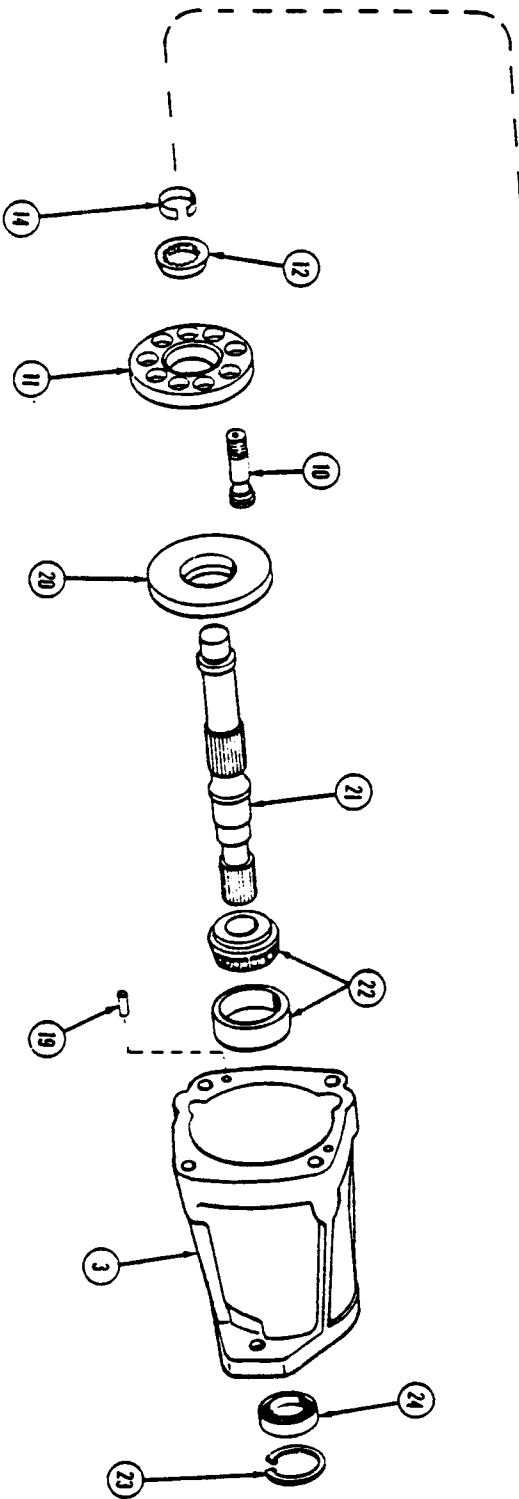
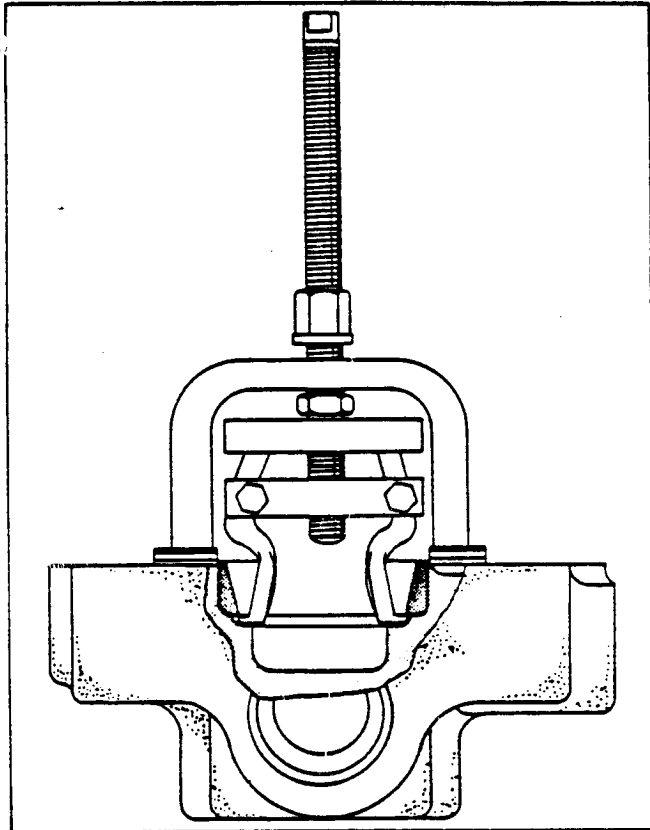

Figure 10. Exploded View of Piston Motor
Figure 12. Removal of race from blind hole of valve block
Periodic maintenance of the motor will generally not require disassembly to the extent described here. In general, disassembly is accomplished in the item number sequence shown in Figure 10. Special procedures are included in the following steps:
Refer to Figure 10 throughout this procedure.
7. Disassemble valve block (2) as follows:
- a. Remove two locating pins (19) if damaged, be careful not to scratch the face of valve block or housing during removal.
- b. Check bearing (5) for score marks or brinelling of the rollers. If the shaft bearing (5) is defective, remove bearing race (5) from the valve block. Use tool shown in Figure 7 and refer to Figure 12 for removal information. If unit is a through shaft model, remove rear shaft seal (25) from valve block (2). See insert view on Figure 10.
8. Remove swash plate (20) from housing (3).